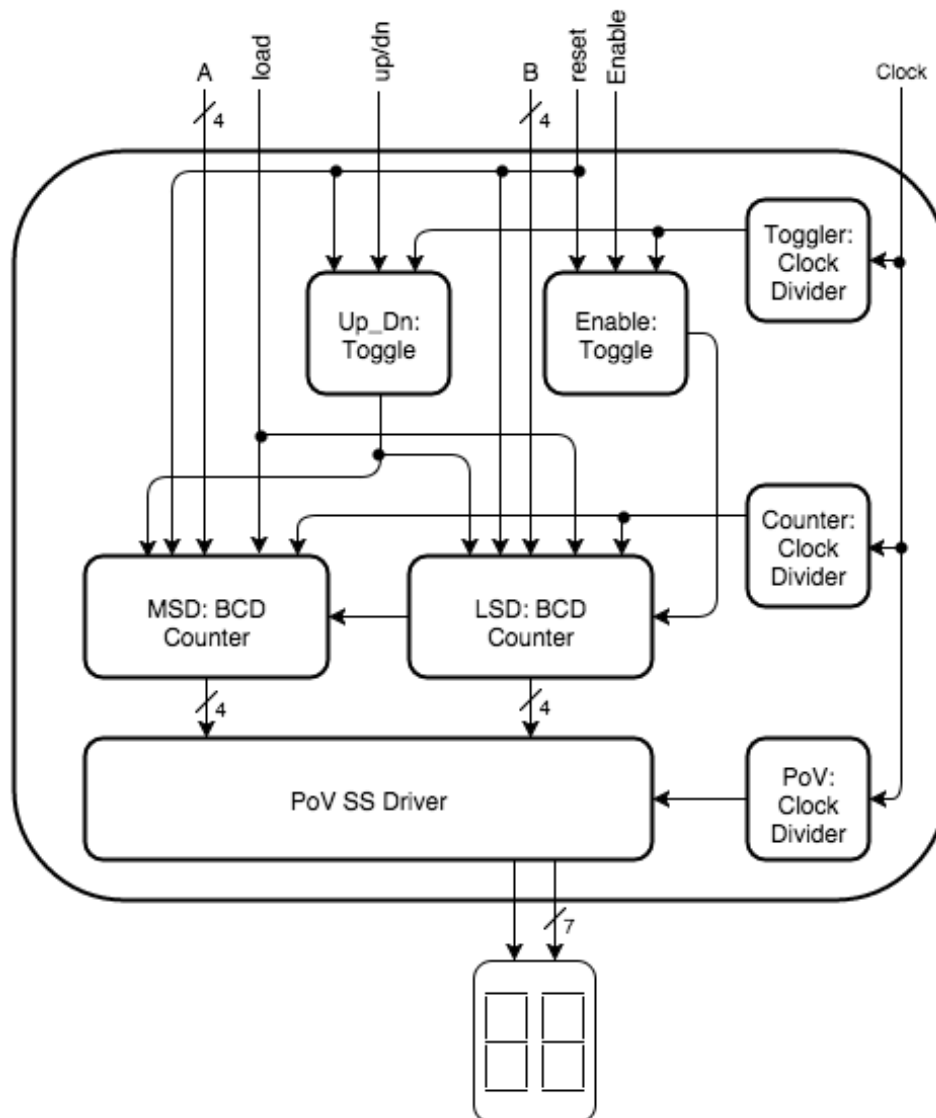

Figure 1. Lab 3 Block Diagram. Each block is an instance of one of the 4 components called by the Top Level file.
4. You have been given a working module for the *BCD_Counter* and *toggler* used within the Lab3 design. Using the Diagram in Figure 1, Write a Lab3.vhd file that instantiates and interconnects two BCD counters, two push button toggle modules, three clock division modules, and a PoV 7-Segment Driver. **Use Generics when possible.*